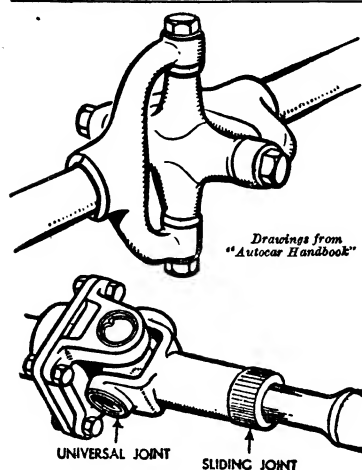
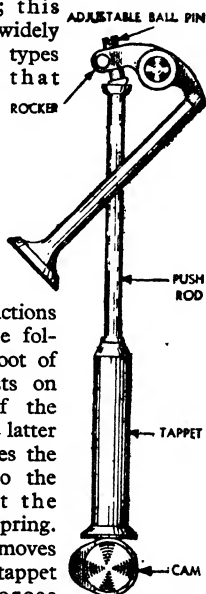

Fig. 1, top, shows simple universal joint and Fig. 2, below, universal in conjunction with sliding joint.
Fig. 2. How an overhead valve is operated by means of a cam, push rod and rocker arm.
bearings pivoted on two pins at right-angles to each other. A simple universal joint is shown in Fig. 1, and Fig. 2 illustrates a universal incorporating a sliding joint. See TRANSMISSION (Auto. Engineering).
One of the most widely used bases for small valves is the "international octal". In this, eight pins are equally spaced on a circle surrounding a central spigot which is provided with a key, so that incorrect insertion in the valve holder is impossible. Fig. 2 shows a perspective view of such a
**Overhead Valves:** there are two ways of operating the valves on O.H.V. engines. One method, shown in Fig. 2, is to mount the camshaft as in an S.V. engine. The valves, which are inverted, are depressed by a rocker arm pivoted at its centre. One end of the rocker arm is close to the valve stem; the other end rests on the top of a long push rod, located at its lower end in the tappet.